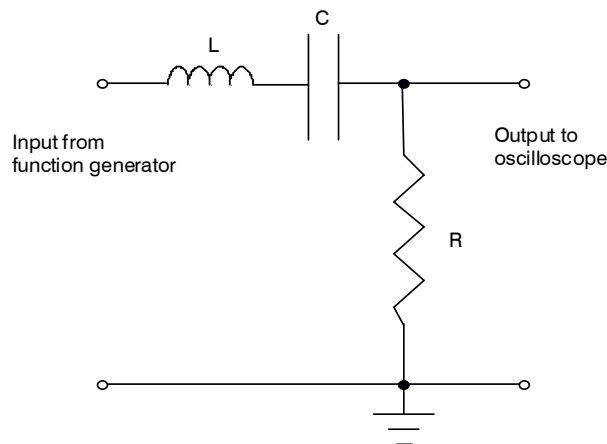
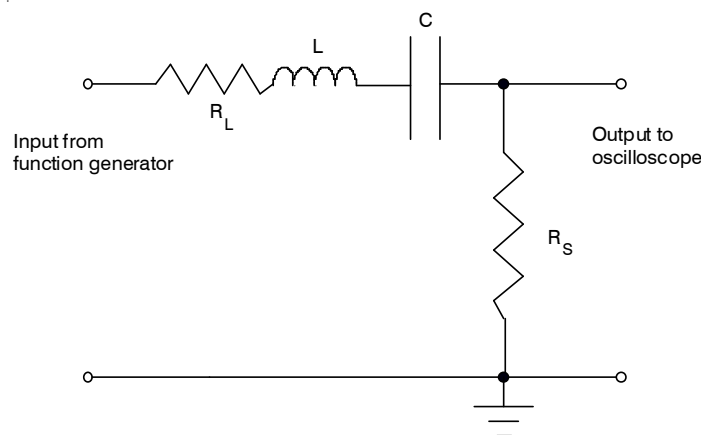

FIG. 1 Ideal RLC series circuit
FIG. 2 More realistic RLC series circuit
Introduction: Analysis of the RLC series circuit shown in Fig. 1 yields the following prediction for the ratio of the amplitudes of the output to input voltages,
Figure 2 shows a more realistic RLC circuit in which the inductor presents an internal resistance R_L as well as inductance. Since the resistances R_S and R_L appear in series, they sum to a total circuit resistance $R_T = R_S + R_L$, and the circuit as a whole exhibits a smaller *total Q* factor $Q_T = 2\pi f_o L/R_T$. It is left as an exercise for the student to show that the input/output expression for this more realistic circuit is
One can derive a prediction for the phase shift between the output and input voltage for the circuit in Fig. 2. It is
2. Construct a RLC series circuit like the one shown in Fig. 1 (and more realistically represented by the circuit in Fig. 2) using a small R_S (about 680Ω) so as to make Q_T fairly large. The capacitor provided to you has a capacitance of $C \approx 0.012 \mu\text{F}$, chosen to produce a resonant frequency near 1 kHz. Convince yourself that this is the case by using the theoretical equation that predicts the resonant frequency. Construct the circuit